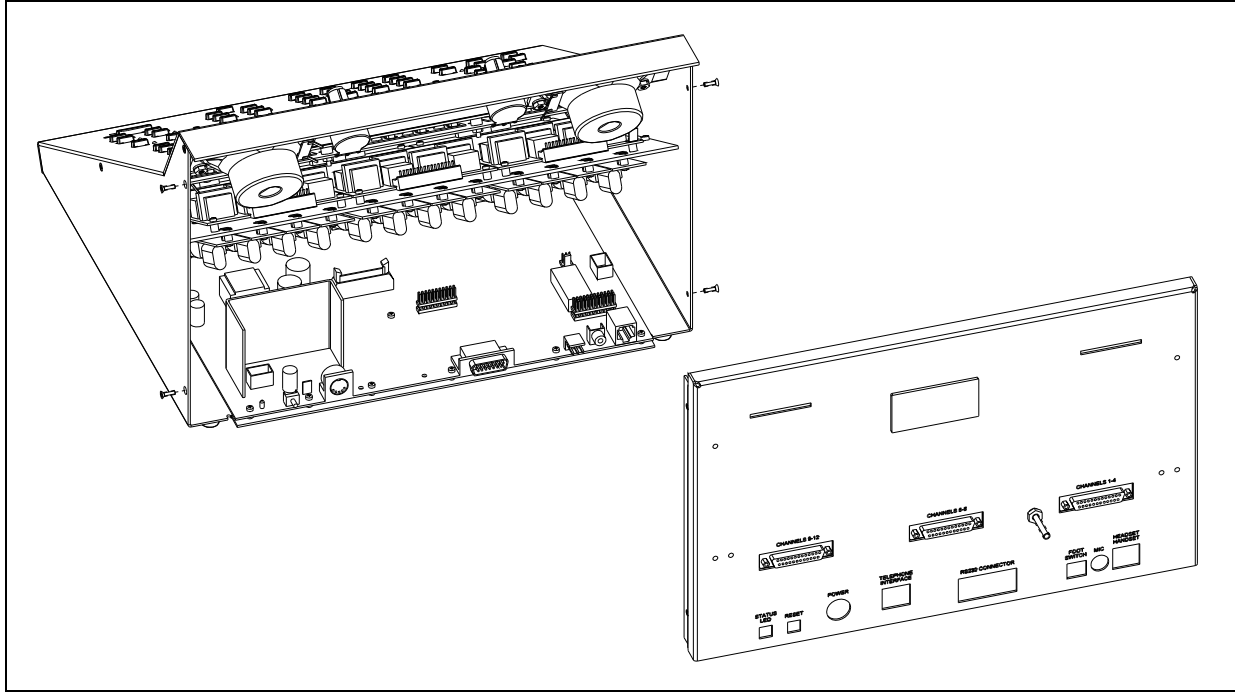

Figure 1.
2. Remove the four screws securing the rear panel. Gently pull the rear cover from the housing and disconnect the ribbon cables (SLV-CBL-P) attached to the surge suppression PCBA. Lay the rear panel flat. See Figure 1.